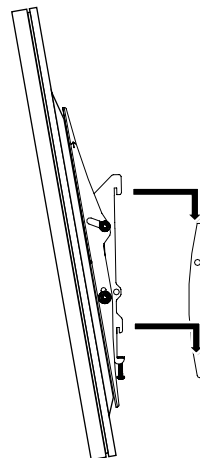

Figure 34. Using the Mounting Brackets
3. Engage the top and bottom mounting brackets to the rails of the wall plate (Figure 34).